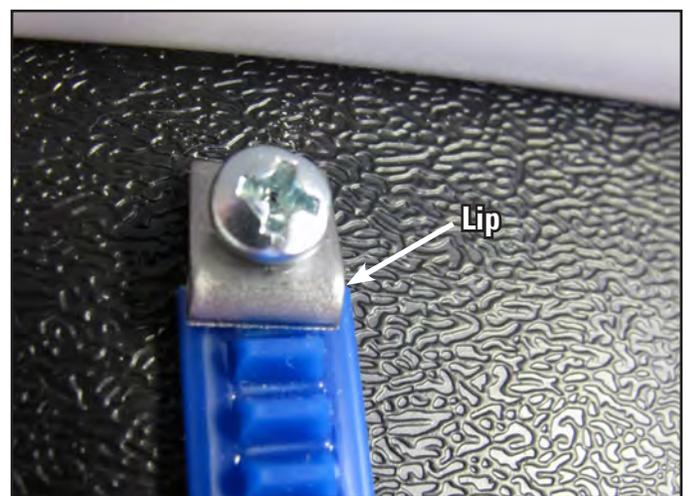

Figure 3.6
**Note:** Do not use the larger drill bit included in the emergency repair kit...this is the wrong size for the X-rack clamps! As an alternative, choose to use one clamp at each end using the lip of the clamp to slide over the last gear of the flexirack (**Figure 3.6**).